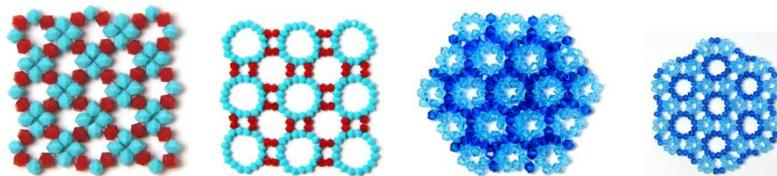

**Figure 5:** Triangle stitch. Diagram on left is a bead unit of one. Diagram on right is a bead unit of three.
**5th Principle:** Three or more bead units lie around the “void” (vertex where the polygon lines or polyhedron edges meet) at recognizable and repeatable angles. Bead units of one bead form the interior angle of the polygon. Two-dimensionally, the bead units create the outline of the polygon (bead unit of two or more beads) or the central/internal angle of the polygon (bead unit of one bead). Three-dimensionally, the bead units create an open frame or skeleton of the polygon face of a polyhedron. No other bead stitch operates in this way. See Figure 5.